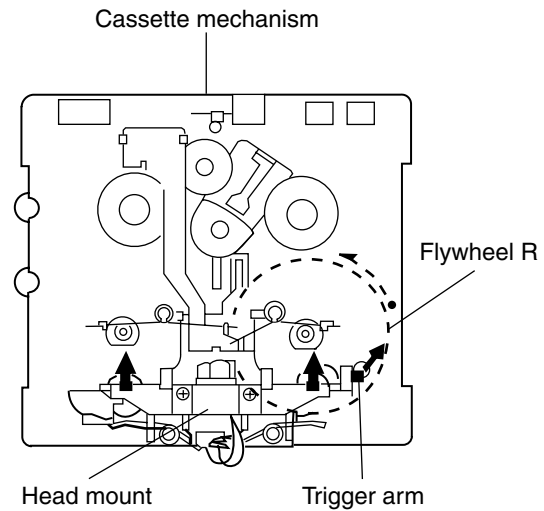

Fig. 1
■ Removing the playback / recording & eraser head (See Fig. 1 to 3)
1. While shifting the trigger arms seen on the right side of the head mount in the arrow direction, turn the flywheel R in counterclockwise direction until the head mount has gone out with a click (See Fig. 1).